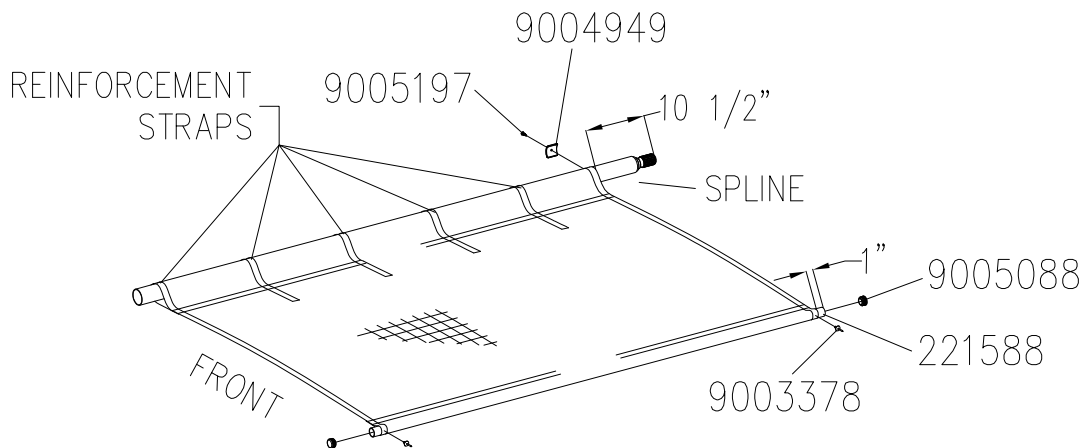

FIG. 2-55
9. Insert the small 1 1/8" fixed tube weldment by sliding it into the small pocket of the tarp. Leave 1" of the tube sticking out one end and drill a 3/16" hole through the center of the outer reinforcement strap and tube. Fasten with a rivet (9003378). At the other end, pull on the tarp by hand to stretch it until there is 1" of tube sticking out. Drill hole and install rivet. Press the 1 1/8" plugs (9005088) into each end of the tube. See Figure 2-55.
10. Insert the 2" roll tube into the large pocket, with the splined shaft to the rear. Measure 10 1/2" from the end of the spline to the start of the tarp. Install the first U-clamp (9004949) and self-drilling screws (9005197) to the first reinforcement strap, to secure the tarp to the tube. Work down the roll tube putting the U-clamps and self-drilling screws on each reinforcement strap. Make sure to keep the tarp pulled tight to reduce wrinkling. See Figure 2-55.